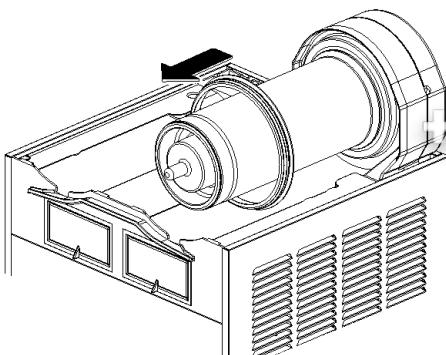

figure 10
- 4 Remove the bowl gasket from its seat (see figure 10).